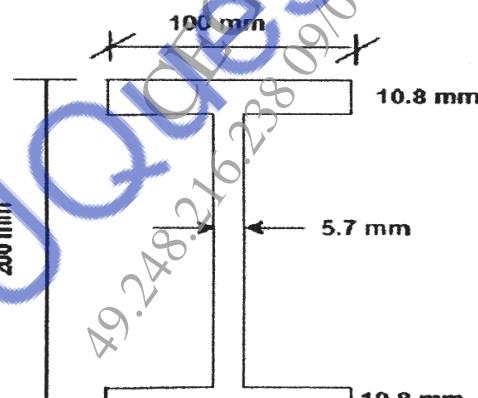

Figure 10
- Q8) a)** Calculate plastic section modulus, shape factor and plastic moment for the figure 10. [13]